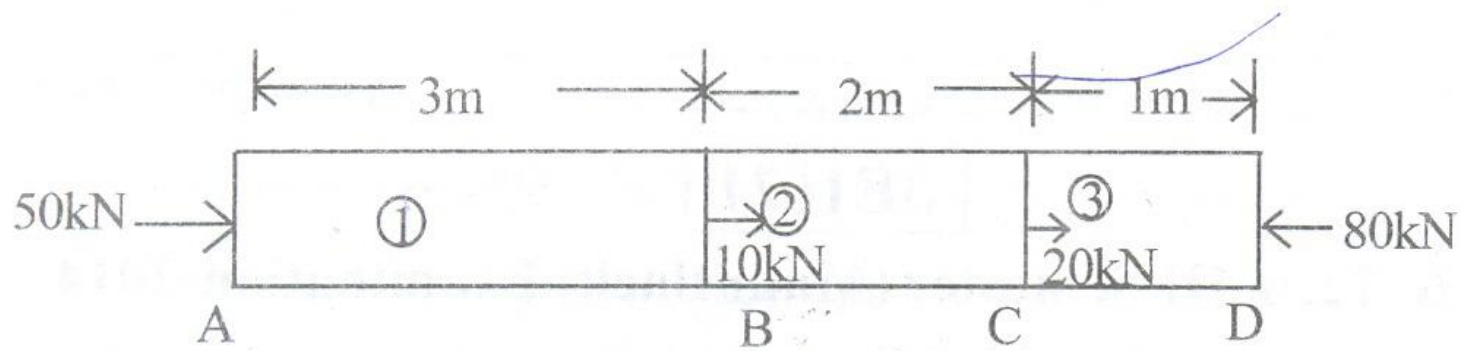

Fig. 2
1. a) A tapering rod has diameter d_1 at one end and it tapers uniformly to a diameter d_2 at the other end ($d_1 > d_2$) in a length L . If modulus of elasticity of the material of rod is E find its change in length when subjected to an axial tensile force P . (8)
- b) A prismatic bar ABCD of diameter 10mm is subjected to different axial forces as shown in fig.2: Calculate the net change in length of the bar AD. Take $E = 200 \text{ kN/mm}^2$. (8)